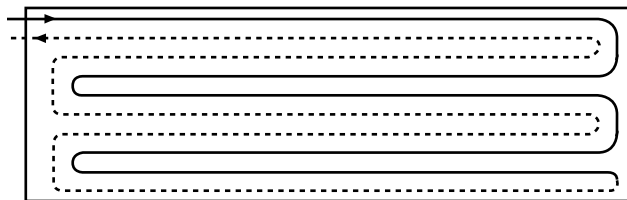

Figure 4-3
**Reverse-return Layout** — The reverse-return tubing layout allows the entire snow and ice melting surface to heat up equally. Install the tubing as shown in **Figure 4-3** with the supply and return portion of the tubing running parallel to each other.